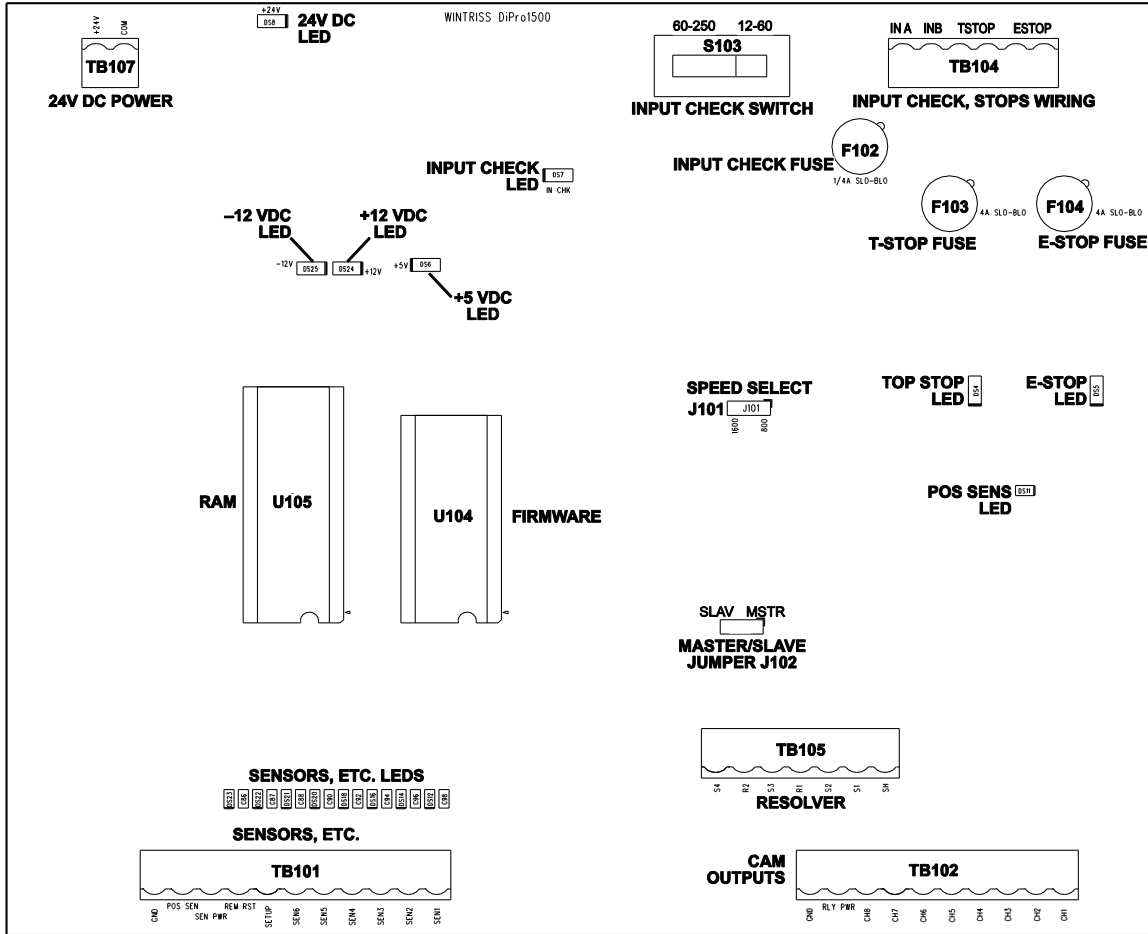
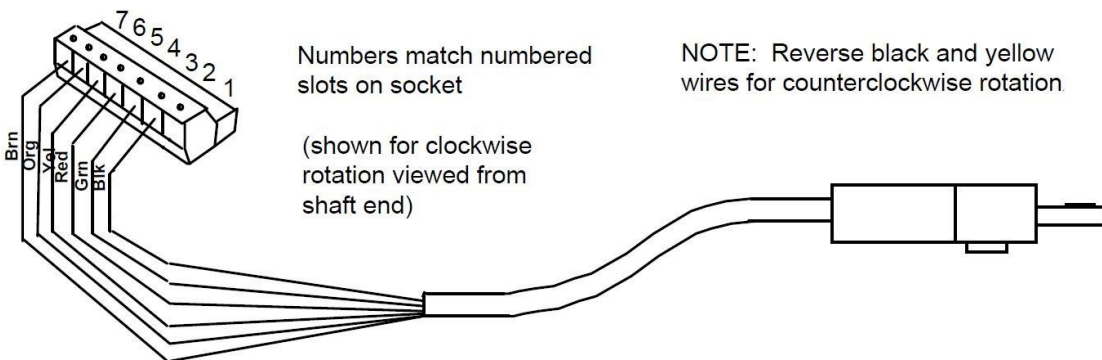
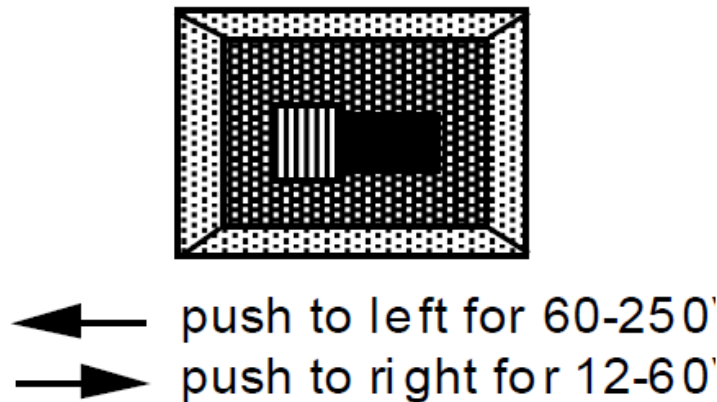

Figure 2-6. Location of components in DiPro 1500 (important items shown and labeled)
Figure 2-7. Wiring for resolver cable (see table below)
Figure 2-9. Input check switch (S103)
3. See Figure 2-6 for the location of the resolver connector TB105. Measure the resolver wires to fit and cut the wires. (If you also ran the position sensor cable through, do not cut these wires until the position sensor is installed).
5. Attach the wires to the L-shaped connector as shown in Figure 2-7. Make sure you connect the black and yellow wires correctly based on the way your resolver will rotate—clockwise or counterclockwise. To connect a wire, find the correct slot and loosen the screw over that slot by turning it counterclockwise (see Figure 2-6). Strip the correct wire for this slot 1/4" (6.4 mm) from end. Insert bare wire into slot 90% of the way. Tighten the screw. Metal tooth inside slot will clamp down on the bare wire for a tight connection. Make sure the metal tooth is clamped down on the bare part of the wire, not on the insulation.
1. See Figure 2-6. Location of components in DiPro 1500 (important items shown and labeled) for the location of the resolver connector TB105 and the jumper J102.
Wiring connections for AC power, for the emergency stop and top stop circuits, and for the input check circuit are on a connector just below the top knockout. See Figure 2-6. No. 16 wire is recommended for these circuits (No. 14 if local codes require it).
- b. For applications where dual safety valve coil voltage is 12-60 Vac or Vdc: Set switch S103 to the right. The switch is marked 12-60 V. *(This switch is located at the upper right-hand portion of the board. See Figure 2-6 for location of switch. See Figure 2-9 for illustration.)*
The cam output assembly with enclosure or without enclosure used with the through-hole version of DiPro 1500 (see Appendix A) are not compatible with the new surface-mount version (see Figure 2-6). The through-hole version used 12 Vdc signals and the surface-mount version uses 24 Vdc signals. Use only item #4318602 (with enclosure) or #4317302 (without enclosure). You connect the cam channels inside the DiPro controller to the cam output assembly. The output assembly contains the relays that control the timing signals for your equipment. You connect your equipment to the relays. The relays open and close circuits to your equipment at the angles (degrees of the stroke) that you set.